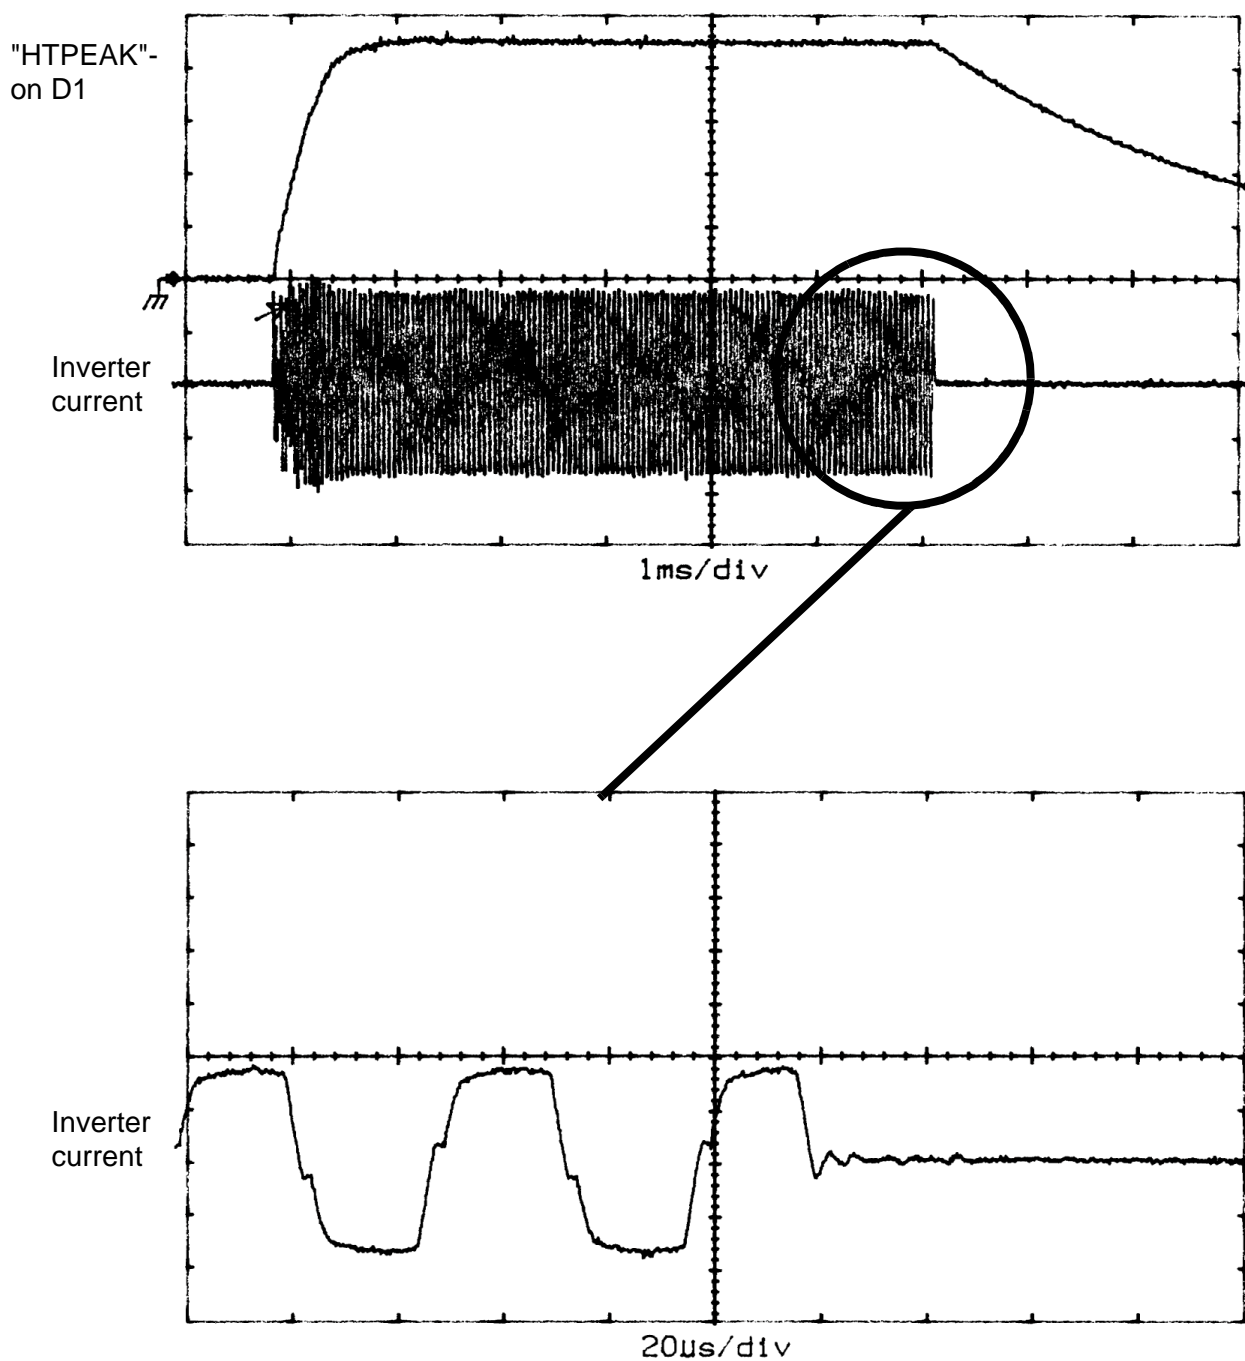

Fig. 1 "HTPEAK" and inverter current, inverter and single tank normal
- Measure the inverter current using an external current transformer and the HT. Compare with fig. 1 "HTPEAK and inverter current, inverter and single tank normal".
- In case of an error, compare the oscillogram with Fig. 1 "HTPEAK and inverter current, inverter and single tank normal"